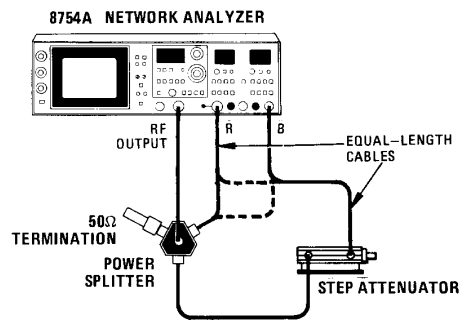

Figure 4-19. Phase Dynamic Accuracy Test Setup
- 1. Connect equipment as shown in Figure 4-19 with step attenuator set at 20 dB.